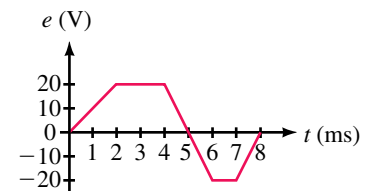

FIGURE 15–76
5. The source of Figure 15–78 has the waveform of Figure 15–76. Determine the current at $t = 0, 1, 2, 3, 4, 5, 6, 7$, and 8 ms. Include sign.